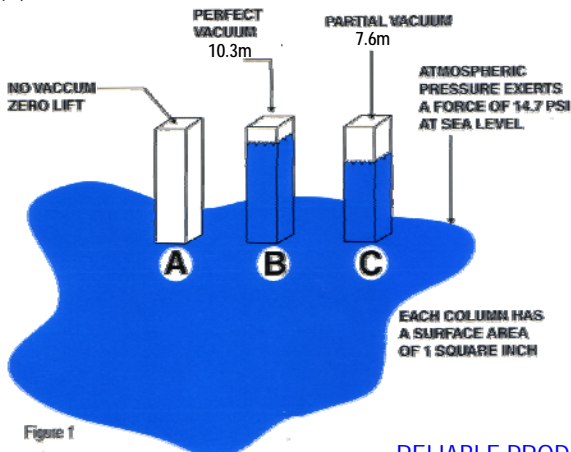

Figure 1
Figure 1 show three hollow tubes, each with a surface area of 1in² rising from sea level up into the atmosphere. In tube (A) atmospheric pressure is the same inside the tube as it is outside: 14.7PSI. Since the weight of the atmosphere is being exerted equally across the surface, no change occurs in the water level inside the tube.